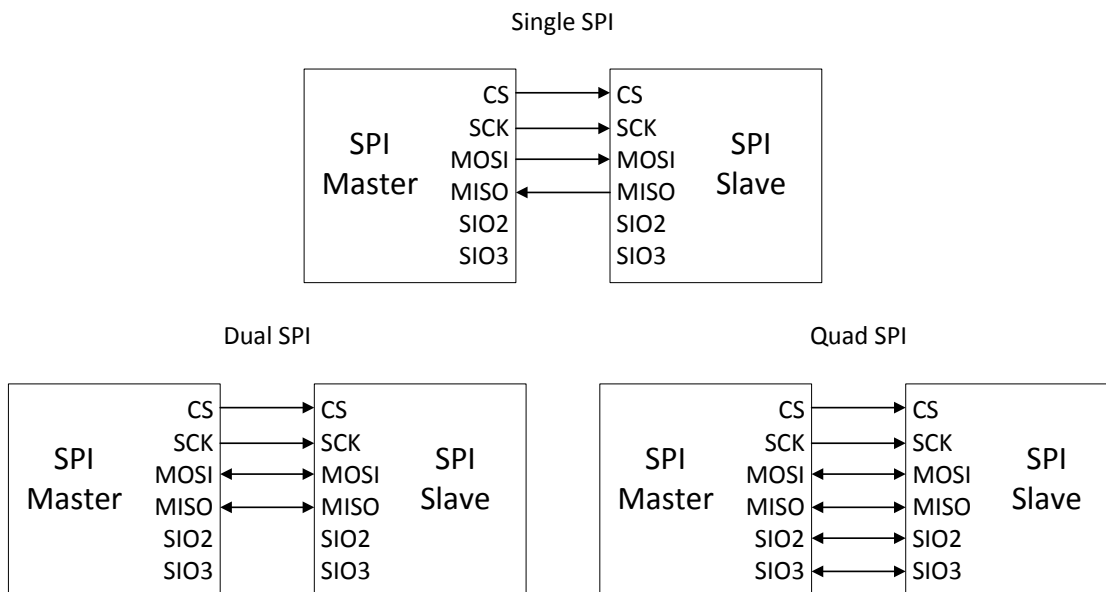

Figure 2.5-1. Pin connection between SPI master and SPI slave
- The Serial Peripheral Interface (SPI) is a serial transmission protocol, which supports single mode (four-pin), , dual mode (four-pin) and quad mode (six-pin) for increased data throughput. The maximum serial clock (SCK) frequency is 48MHz. Note that single mode can support full duplex, but dual and quad mode only support half duplex. Figure 2.5-1 is an example of the connection between the SPI master and SPI slave. Table 2.5-1 shows the characteristic of each pin.